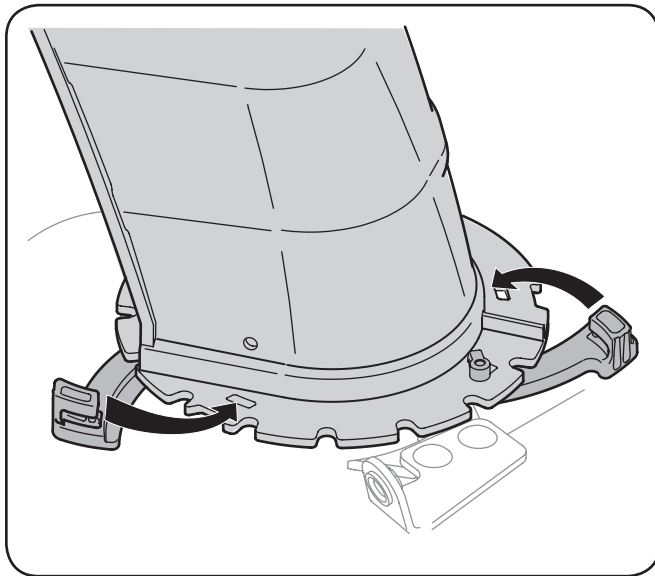

Figure 3-4
2. Close the flange keepers to secure the chute assembly to the chute base. The flange keepers will click into place when properly secure. See Figure 3-4.